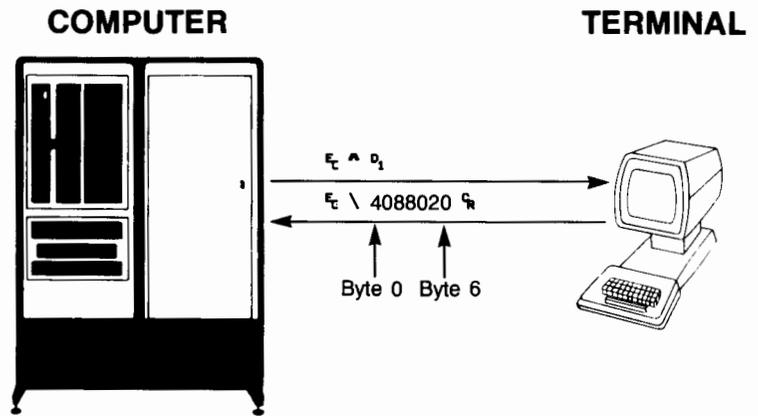

Figure 3-5. Terminal Status Example
2. If the terminal is connected to a computer (figure 3-5), send the following escape sequence: